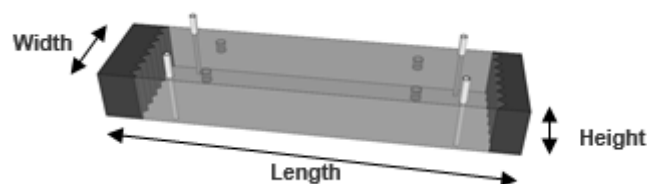

Figure 76: L0 wedge dimension
- Wedge dimension: set the height, length and width of the wedge (Figure 76).